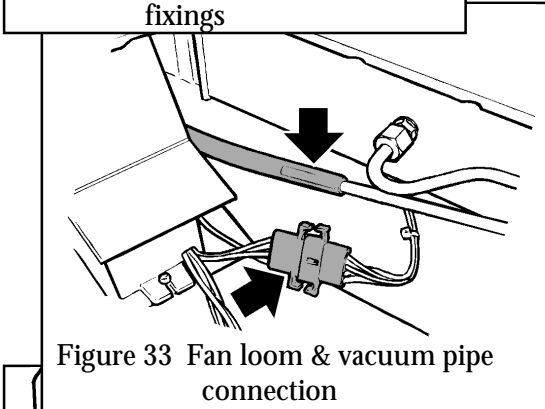

Figure 33 Fan loom & vacuum pipe connection
13.9.3 Detach the fan wiring loom connection. (see figure 33).
13.9.4 Detach the plastic vacuum tube from the metal vacuum pipe (see figure 33).